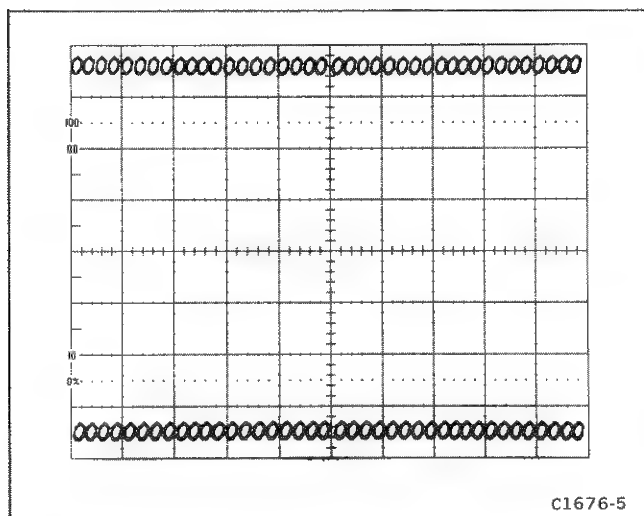

Figure 5-4. Readout display with Q2225 removed.
- e. **EXAMINE**—the crt display for two rows of zeros, 40 zeros to a row with no character overlap. The two rows of zeros should be located vertically in the middle of the top and bottom divisions of the graticule (see Fig. 5-4).
- e. **EXAMINE**—the crt display for two rows of zeros, 40 zeros to a row. The two rows of zeros should be located vertically in the middle of the top and bottom divisions of the graticule (see Fig. 5-4).